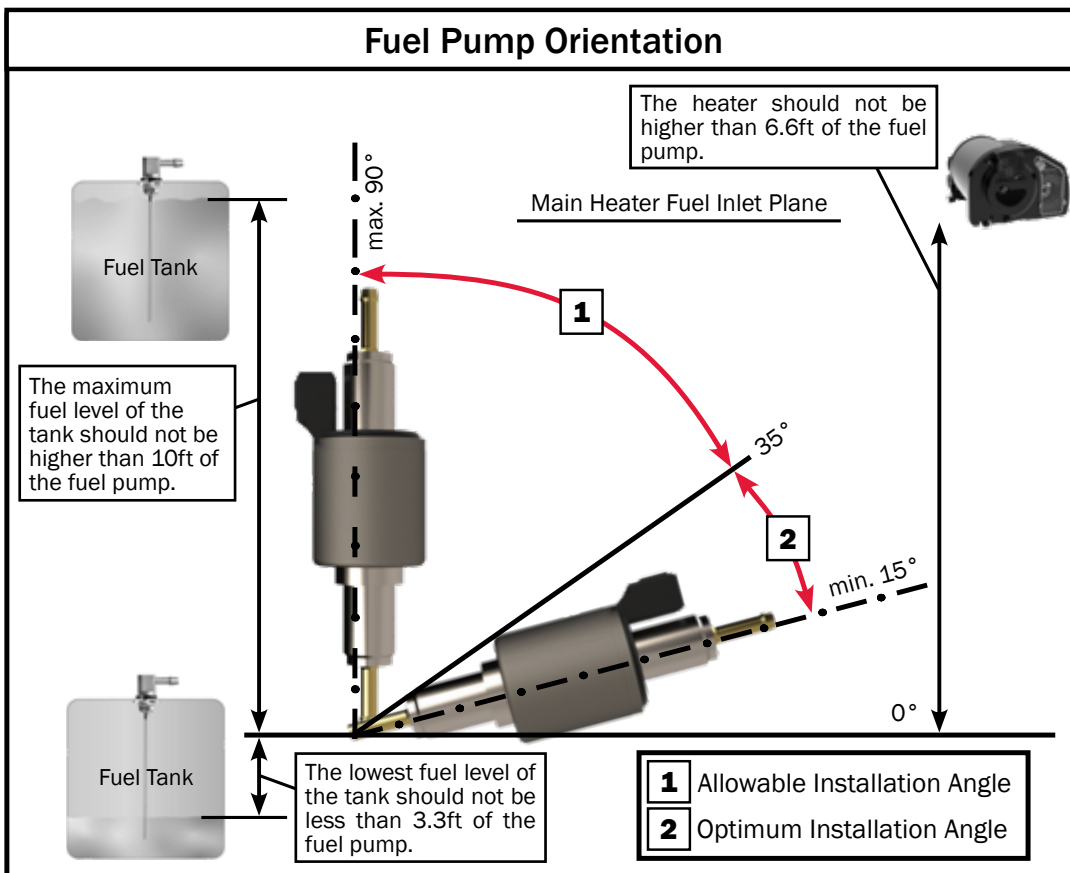

Figure 20
- Fuel Pump is required to be installed vertically. It is not recommended to mount the assembly rotated 180° (see Figure 20).